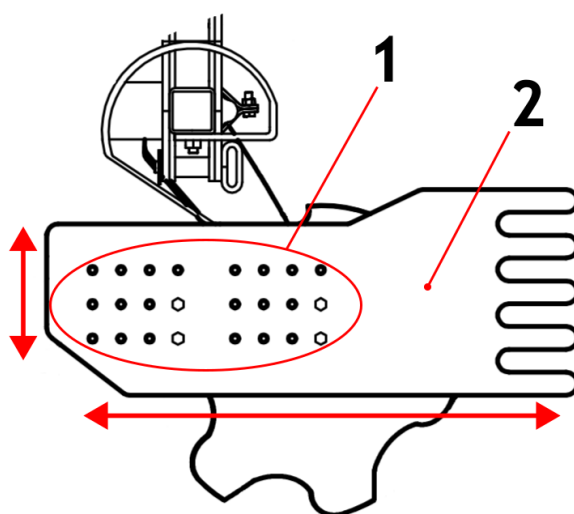

Figure 28 Adjustment of the side screen position (1 – adjustment holes for the side screen position relative to the bracket, 2 – side screen)
The side screen should be positioned and locked with a screw at a height so that it is above the soil surface and not exposed to impacts from stones or the accumulation of crop residues. If necessary, it should also be adjusted forward or backward by mounting it on the available adjustment holes (Fig. 28, item 1) so that it prevents the soil thrown by the outer front disc from falling off and collects the furrow behind the outer rear disc.